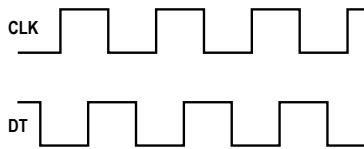

Figure 10. Switching signals during rotation.
Although both contacts are in fact equivalent, one of them is designated the Clock Pin (CLK) and the other is the Data Pin (DT). **Figure 10** shows the output signals for one rotation. Evaluating them is really easy: you wait for a trailing edge at CLK and then examine DT in order to decide whether to increment or decrement the counter status accordingly.